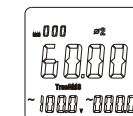

Figure 12-2
- Please press SELECT key to select the 2nd phase location of ϕ 2 shown in Figure 12-2. It also can display apparent frequency, voltage and current of phase location of ϕ 2.